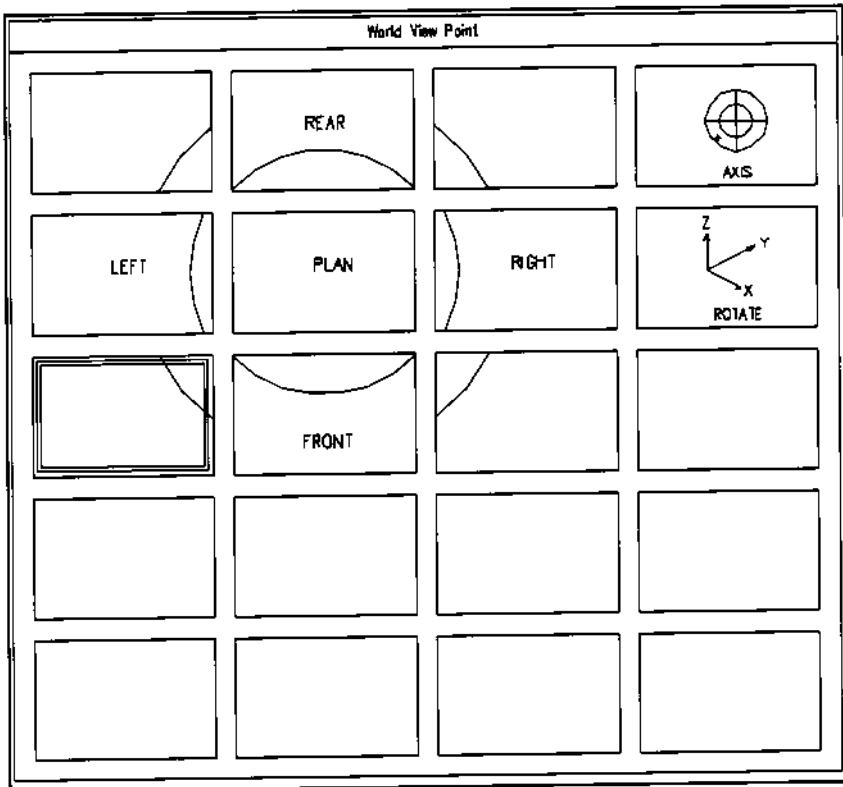
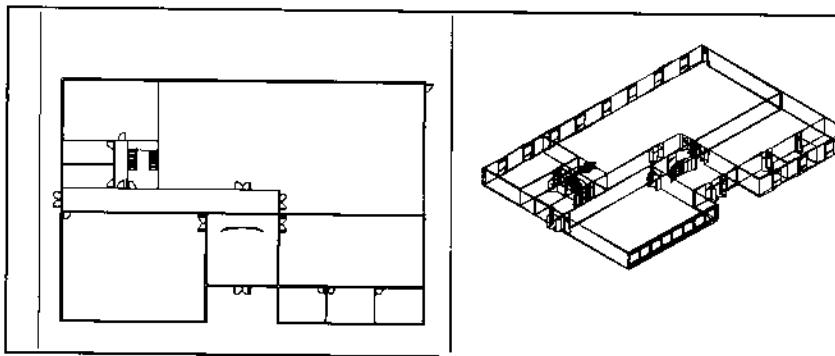

Figure 10.
Figure 11.
4. Select the Vpoint icon menu, then pick the bottom left icon (displaying the extra frames) shown in Figure 10 to create an isometric view as shown in Figure 11.